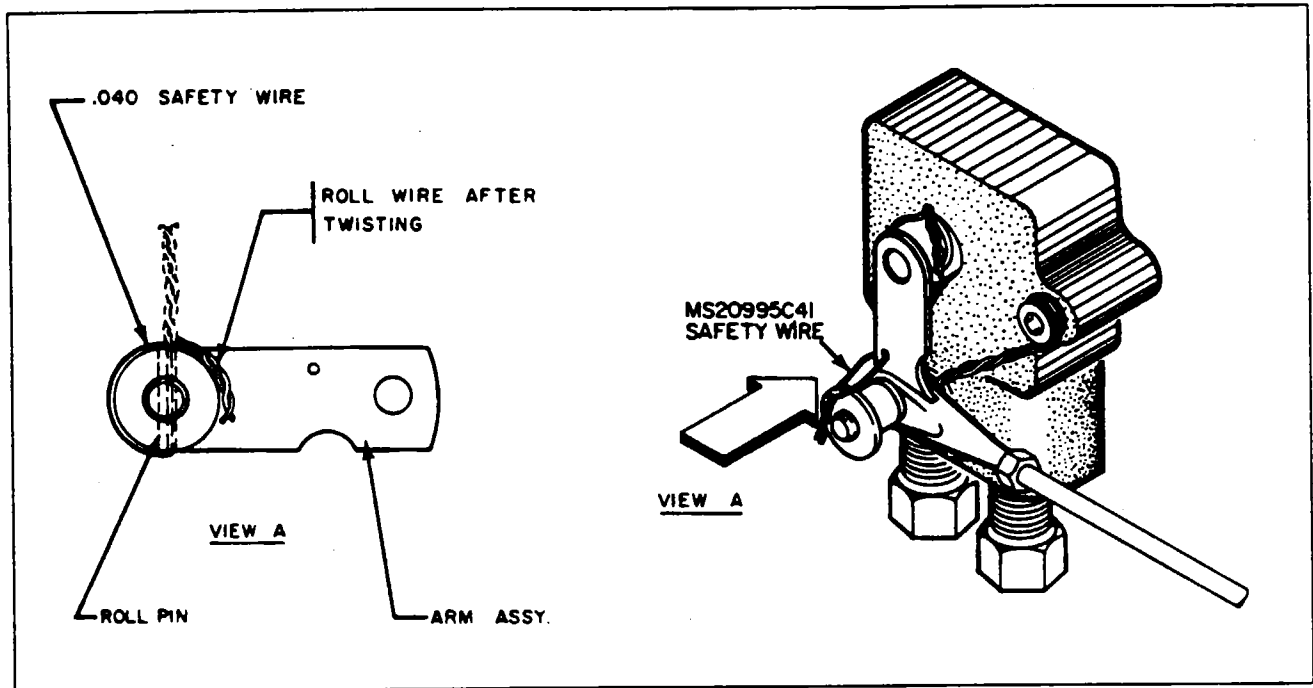
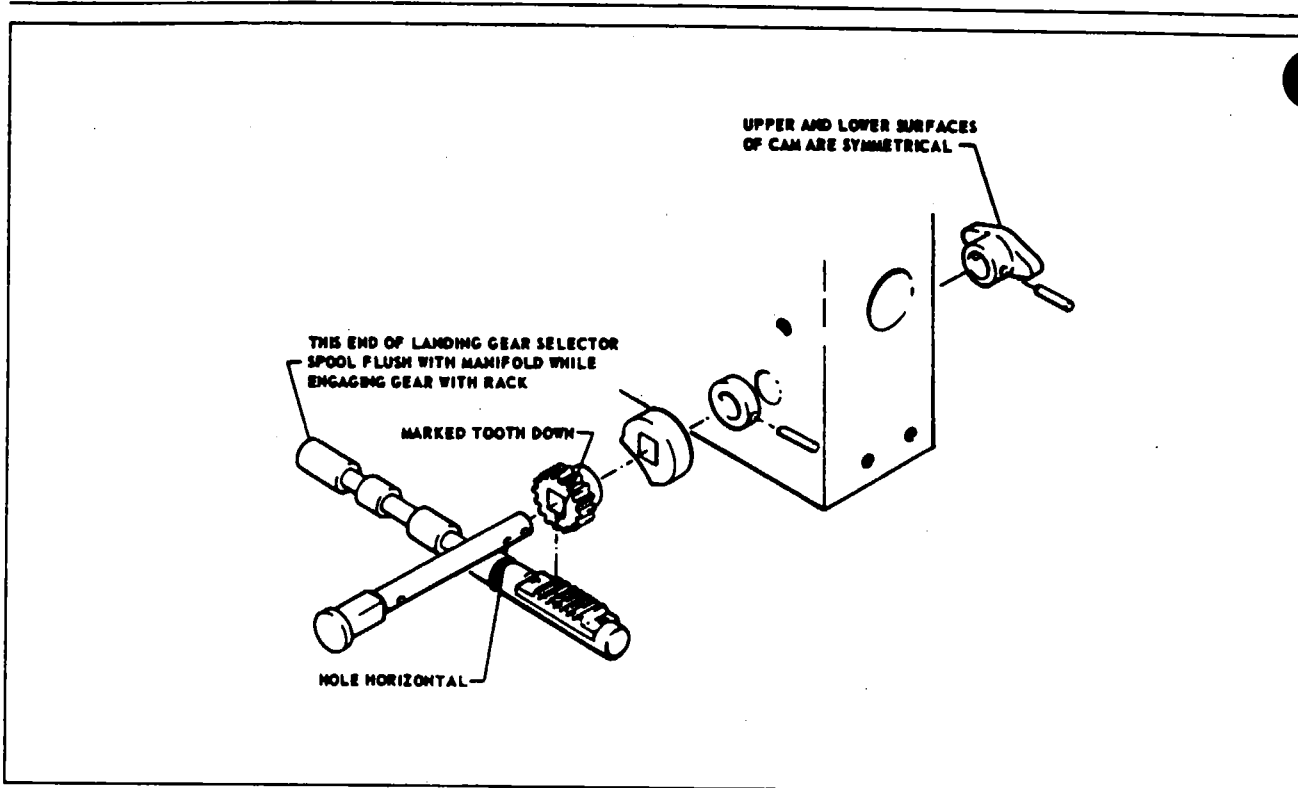

Figure 6-8. Safetying Control Arms (Ozone)
Figure 6-9. Timing of Selector Spool (Ozone)
- a. If the landing gear handle shaft (1) or gear (2) was removed, the parts must be indexed and assembled as shown in Figure 6-9.
- b. Lubricate the shaft (1), install the cam (3) and spacer (4) on the shaft and insert the shaft into the Power Pack.
- c. Install the return cam (5) with the roll pin (6). Both sides of the cam surfaces are identical. Check the landing gear handle shaft for freedom of movement in the Power Pack. Check for slight endplay in the shaft. If shaft binds, remove the cam and lap inside boss of cam to obtain slight endplay in the shaft with the cam installed.
- e. Install the Power Pack control arm on the end of the shaft with the arm pointing down. Align the holes between the shaft and the arm assembly and install the roll pin. Install .040 safety wire through the roll pin and around half of the arm. Roll the twisted end of the safety wire around the other half of the arm assembly. (Refer to Figure 6-8.)
When installing the manifold, time the landing gear assembly to the rack on the selector spool as shown in Figure 6-9. Refer to the following steps if binding exists.